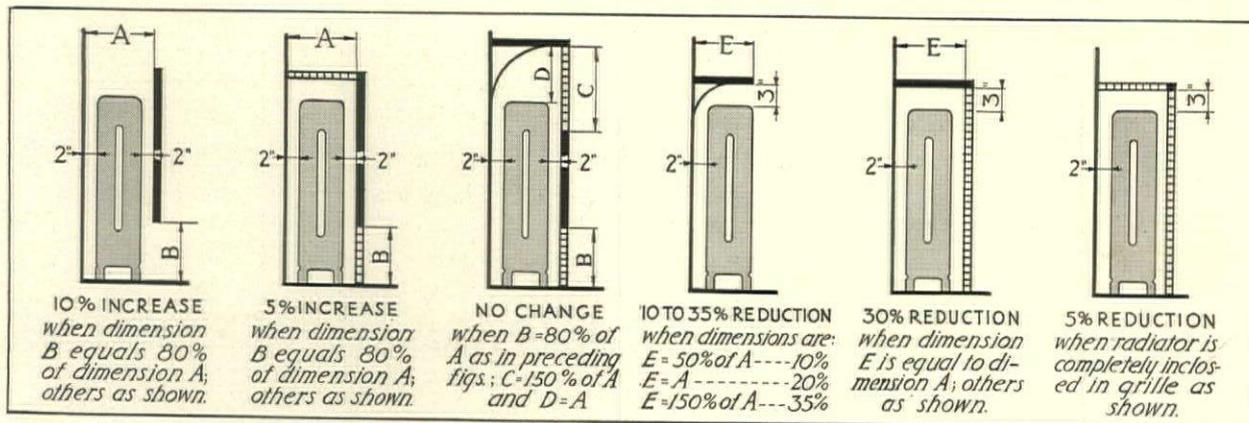

Fig. 6. Effect of radiator enclosures compared to heat emitted by a free standing radiator
**Radiators in enclosures** may be slightly more efficient or much less efficient than open radiation according to the type of enclosure employed. See Fig. 6 for diagrammatic presentation of types commonly used and their effect on radiator performance.